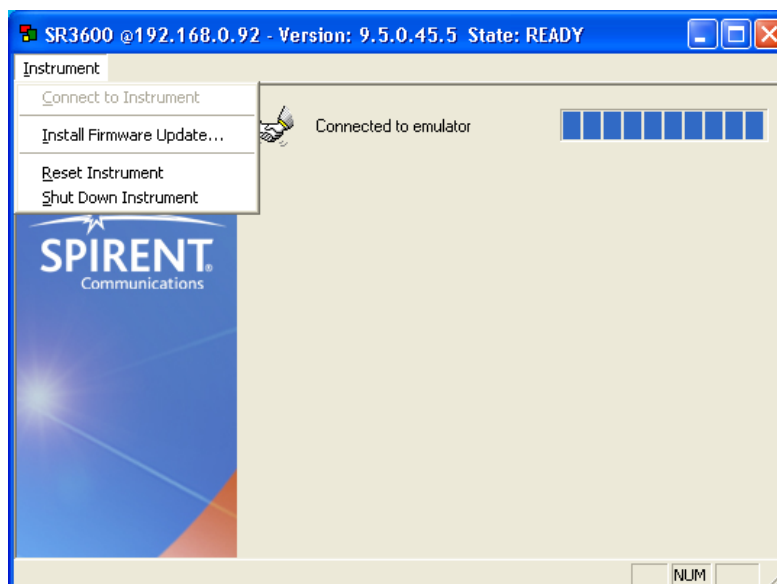

Figure 2-27: Opening the Firmware Update
3. In the *Upgrade* window, select **Instrument>Install Firmware Update** as shown in Figure 2-27.